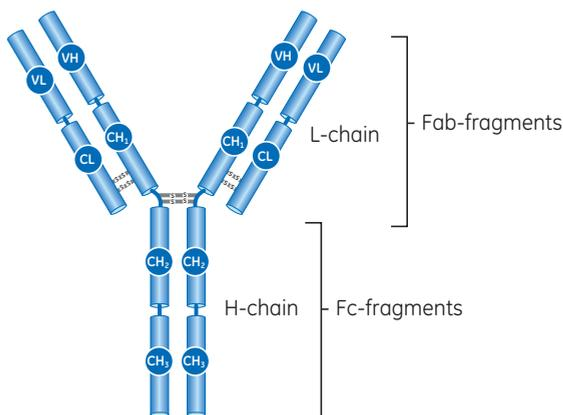

Fig 1.1. Basic H₂L₂ structure of a typical immunoglobulin.
All immunoglobulins, independent of their specificity, have a common structure with four polypeptide chains: two identical heavy (H) chains, each carrying covalently attached oligosaccharide groups; and two identical, nonglycosylated light (L) chains. A disulfide bond joins a heavy chain and a light chain together. The heavy chains are also joined to each other by disulfide bonds. These disulfide bonds are located in a flexible region of the heavy chain known as the *hinge*, a region of approximately 12 amino acids that is exposed to enzymatic or chemical cleavage. Each globular region formed by the folding of the polypeptide chains as a result of the disulfide bonding is termed a *domain*. All four polypeptide chains contain constant (C) and variable (V) regions, found at the carboxyl and amino terminal portions, respectively. Heavy and light chains have a single V region. Heavy chains contain three C regions while light chains possess a single C region. The V regions of both heavy and light chains combine to form two identical antigen binding sites (the parts of the antibody which bind the antigen). Effector functions of antibodies, such as placental transport or antigen-dependent cellular toxicity, are mediated by structural determinants within the Fc region of the immunoglobulin. Figure 1.1 illustrates the basic H2L2 structure of a typical immunoglobulin.